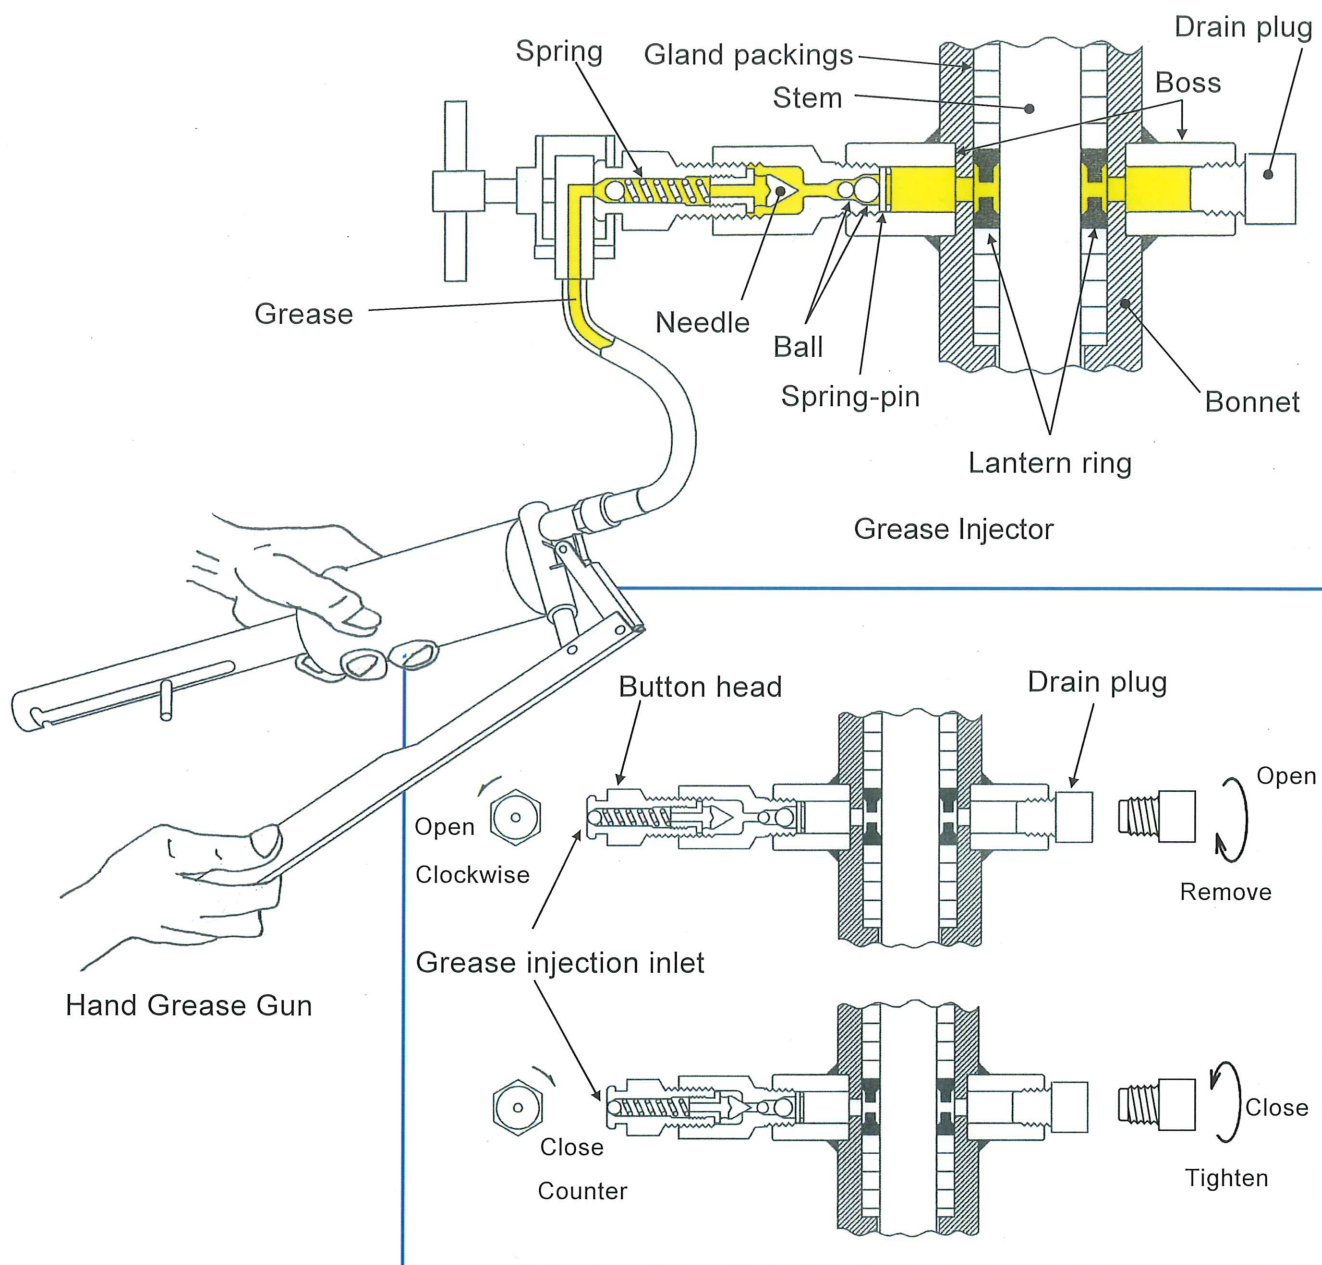

Figure 6.1 Grease injection method for the grease supplement
To change gland packing, it is necessary to inject grease from inlet of grease injector to lantern ring provided in an intermediate part of the gland packing in the stuffing box. To inject grease (Note 1), please perform in accordance with the following procedure. (Please refer to figure 6.1.)
- 7) After grease injection is completed, turn the inlet of grease injector to the clock-wise direction, slightly tighten it by adjustable spanner. (Please refer to figure 6.1.)